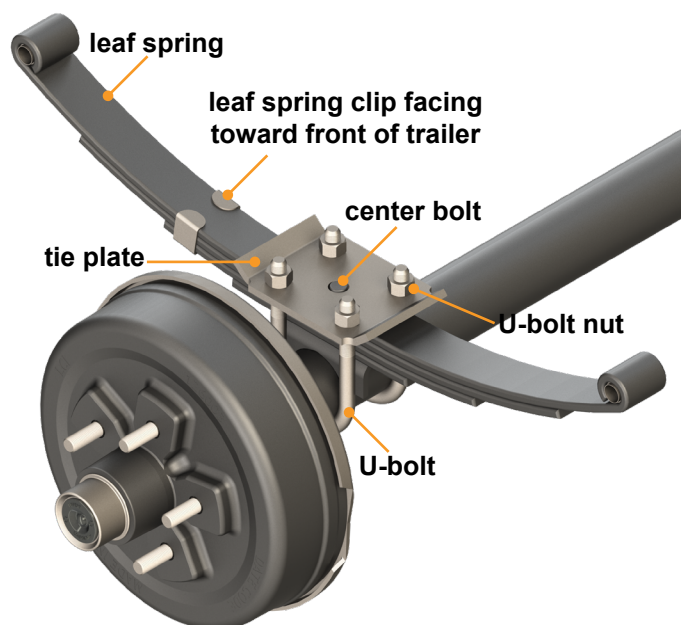

Fig.6
1. Place the new or reused leaf spring onto the new axle with the leaf spring clip pointing toward the front of the trailer (Fig.6).
2. Position U-bolts and tie plate on the axle (Fig.6).
- A. Center bolt is engaged in tie (spring) plate (Fig.6).
- B. Leaf spring is square to the axle (Fig.6).